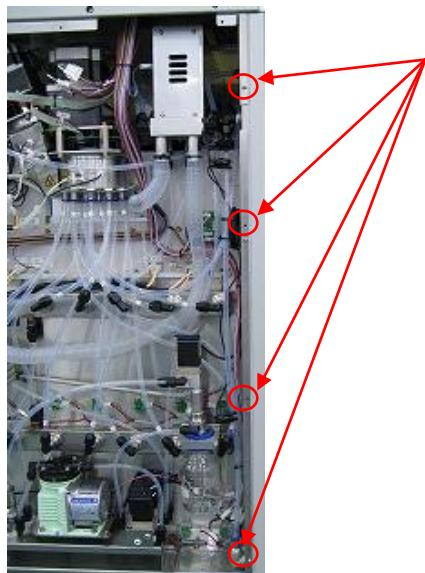

Fig.4-16-1-10 Screw locations for side panel
(4) Attach the back panel and tighten cross-recessed pan head screws Sems B (see Fig.4-16-1-1).